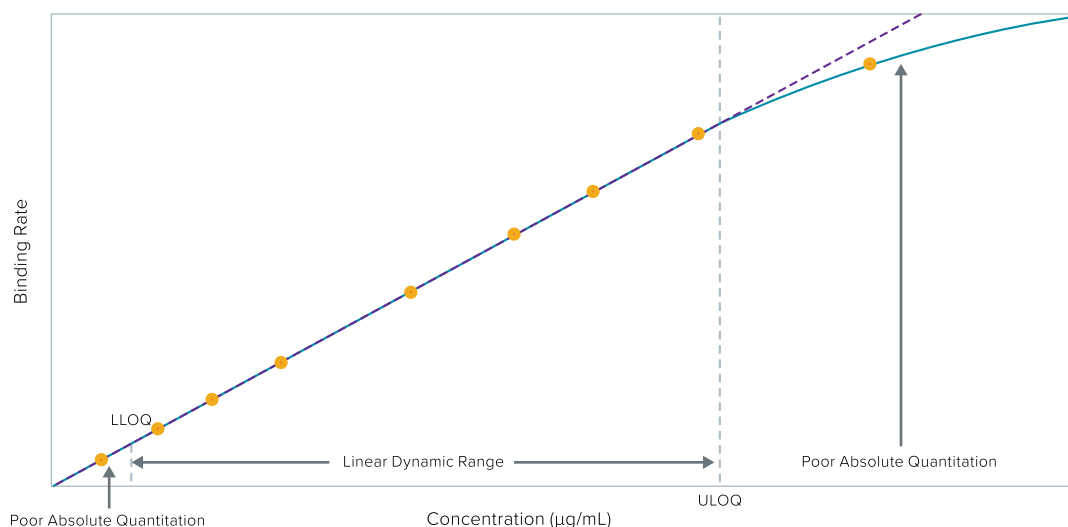

Figure 1: Standard curve showing limits of detection and quantitation. For optimal results, always work within the linear dynamic range of the standard curve.
- 6 If the concentration of an unknown is too high (outside the linear range of the standard curve), dilute the unknown into the linear range and repeat the experiment (Figure 1).
- 8 Test assay precision by measuring replicates of the same sample and calculating the coefficient of variance (CV). Two or three replicates can be used depending on the assay criteria defined by the user.
- 5 Samples measured should be within the concentration range defined by the standard curve, and within the **linear dynamic range** of the standard curve (Figure 1).
- Inspect the locations of unknown samples on the standard curve. If they are outside the concentration range defined by the standards, the results of these unknowns are not reliable and should be excluded. If the unknowns are located on the upper end of the standard curve that is plateauing out of the curvature (outside the linear dynamic range), the results are not ideal for accurate quantitation. Sample measurement should be repeated by diluting the samples so the concentrations fall within the linear dynamic range of the standard curve (step Figure 1).